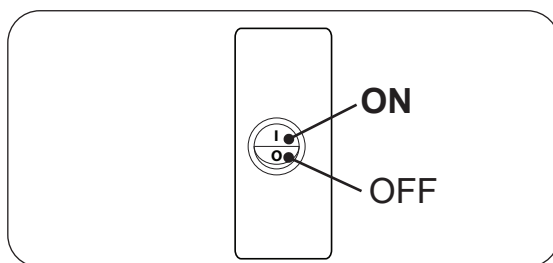

Fig. 33-2 Switch box, ON/OFF
2. Locate the ON/OFF switch at the front of the switch box. Press the switch to the **ON (I)** position. See Fig. 33-2.